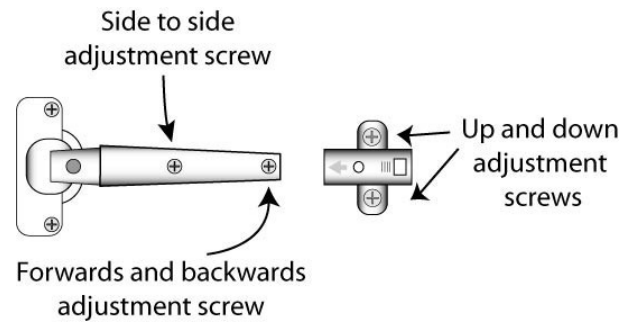

Fig. 2
4. Ensure the arrow next to the empty screw hole is pointed towards the door. (*See Fig. 2.*)
5. To fasten the hinge to the hinge plate, hold the door with hinges attached so that the hooks on the **back** of each hinge latch onto the front, leading edge of the mounted plate (where the arrow is). Squeeze the two hinge pieces until they snap together (see *Fig. 2* close up).
NOTE: Door faces may be adjusted up and down by loosening the hinge plate's fixing screws and sliding the door up and down then tightening the fixing screws again. The width of the gap between the doors may be adjusted by tightening or loosening the adjustment screw on the front of the hinge arm. (See *Fig. 2*)